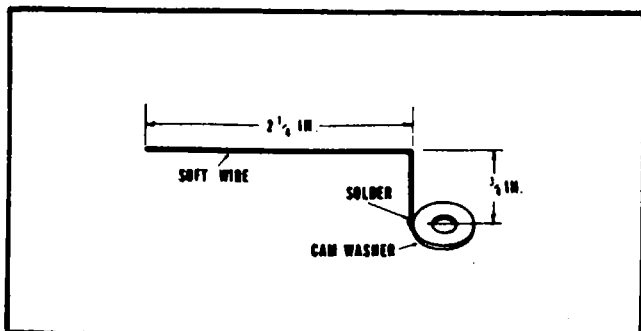

Figure 11-13. Timing Pointer
- b. Fabricate a timing pointer as shown in figure 11-13.